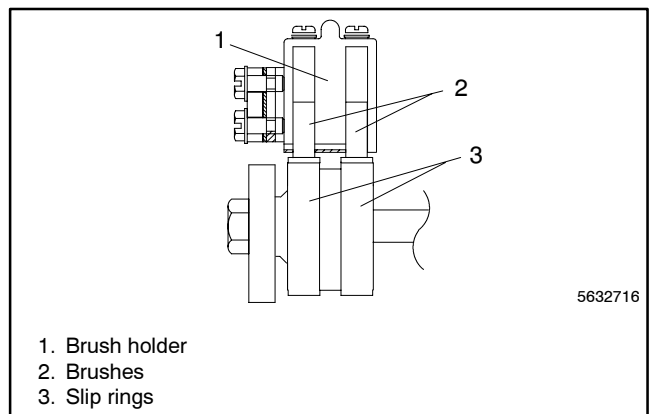

Figure 8-13 Brush Positioning
- b. Verify that the brushes are centered on the slip rings. If required, insert spacers between the mounting surface and brush holder to center the brushes on the slip rings. See Figure 8-13. See Section 6.6, Brushes, for more information.